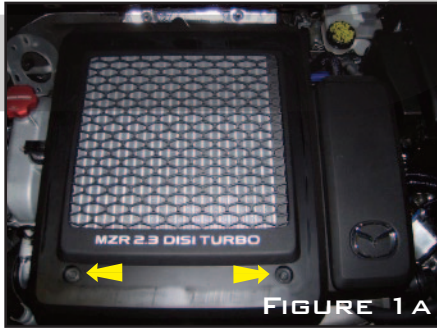

FIGURE 1A
A. REMOVE THE TWO 10MM HEX BOLTS HOLDING THE INTERCOOLER COVER TO THE INTAKE MANIFOLD AS SHOWN IN FIGURE 1A. SLIDE THE INTERCOOLER COVER OFF THE BACK OF THE INTERCOOLER AND OUT OF THE ENGINE COMPARTMENT.